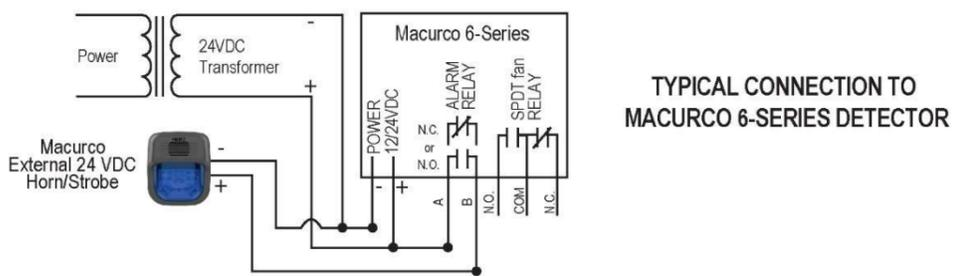
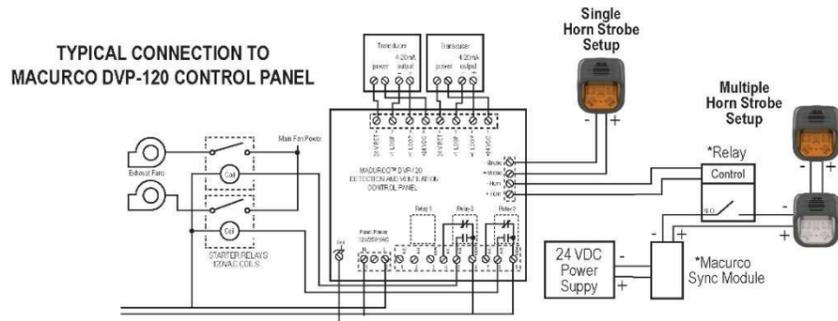

Figure 4: Standalone Detector
Figure 5: System Diagram with Sync Module
- ⚠ **NOTE:** Refer Figure 4 to connect horn/strobe with standalone detector and figure 5 for Macurco control panels and synchronization module.